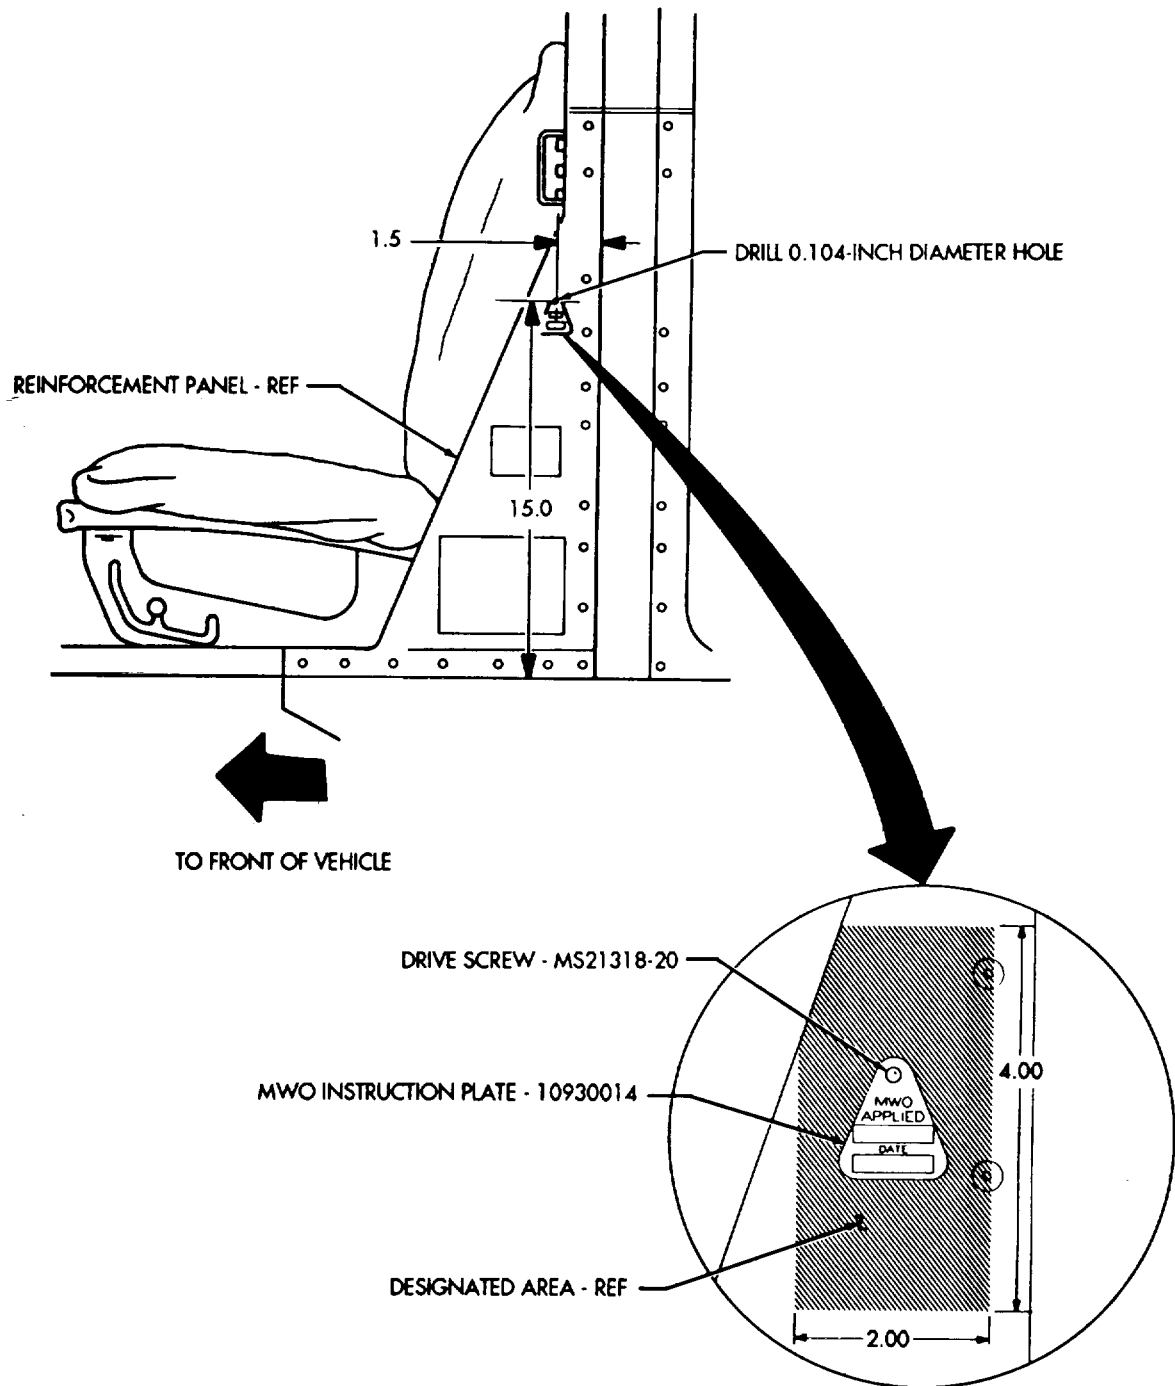

FIGURE 4
(2) Install 10930014 MWO instruction plate by drilling a 0.104-inch diameter hole within designated area on body reinforcement panel and secure with MS21318-20 drive screw as shown in figure 4.
(3) After drive screw is installed, flatten or remove any protruding drive screw material from inside of body reinforcement panel.